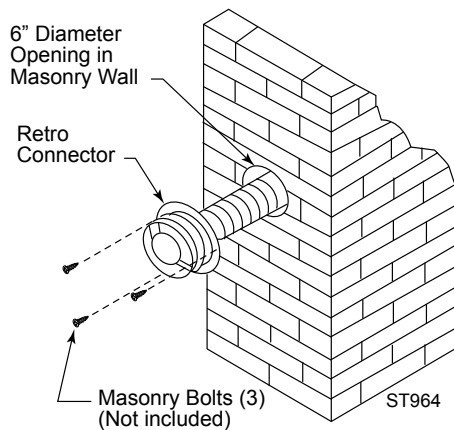

Figure 52
8. Attach the flex to the retro connector. Use three sheet metal screws to attach the flex liner to the connector. (Fig. 52) Mount the retro connector to the masonry wall using masonry bolts. Re-drill larger holes on connector as needed. Be careful to insure that the connector is centered in the opening and the mounting holes line up with the masonry wall.